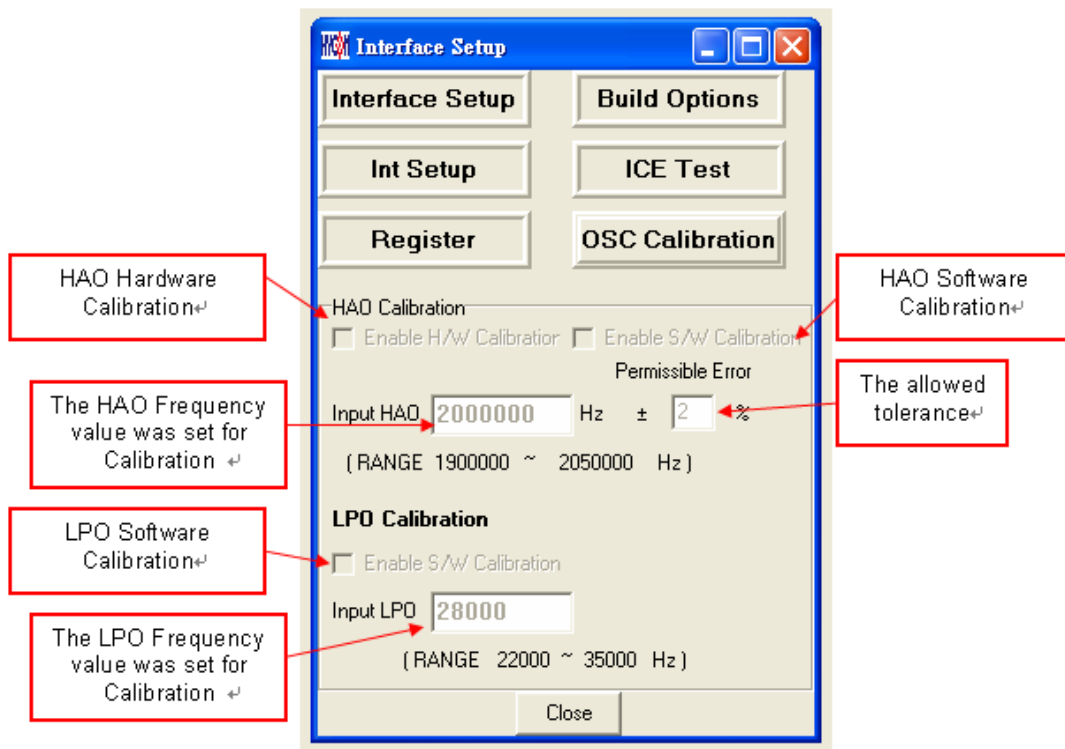

Figure 70
- If the argument is INDF0, POINC0, PODEC0, PRINC0, INDF1, POINC1, PODEC1 and PRINC1, the Data will be FSR0 or the address Data of FSR1 as Figure 70 described.